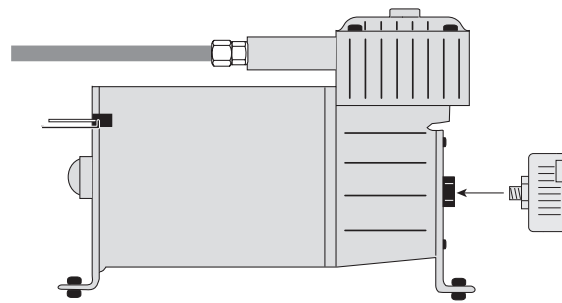

fig. 3
5. Attach the air filter to the inlet port at the back of the compressor (Figure 3).